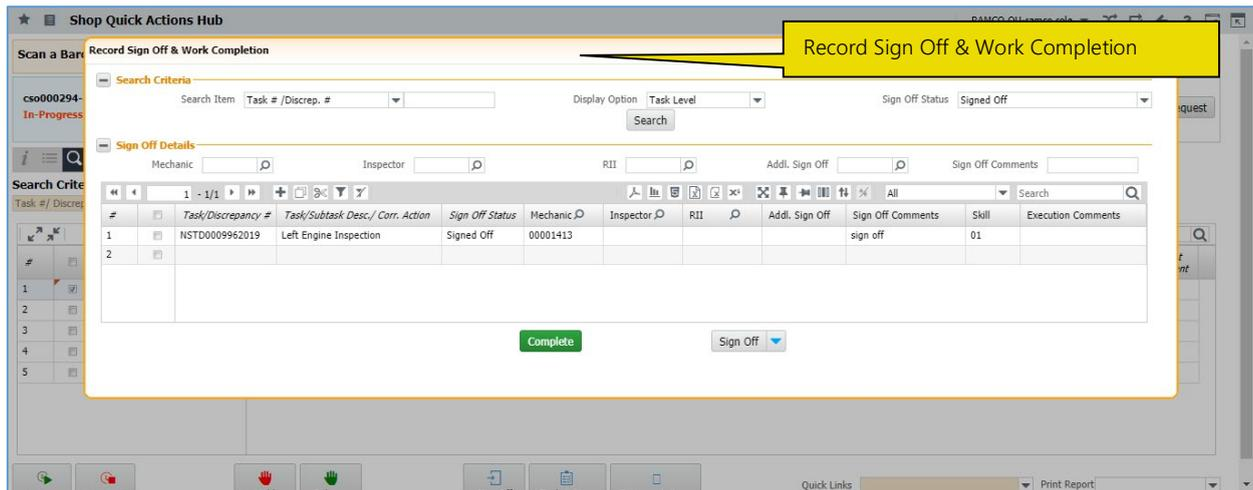

Figure 2.8 Signing off tasks
1. Click the hyperlink in the **SS** column of the tree grid in the **Shop Quick Actions Hub** screen. The **Record Sign Off & Work Completion** popup appears. Alternatively, select the task in the tree grid and then click the **Sign Off** button. *See Figure 2.8.*